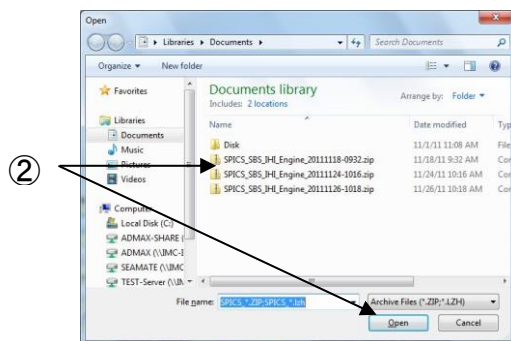
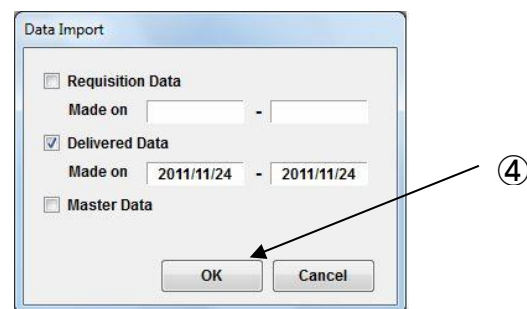
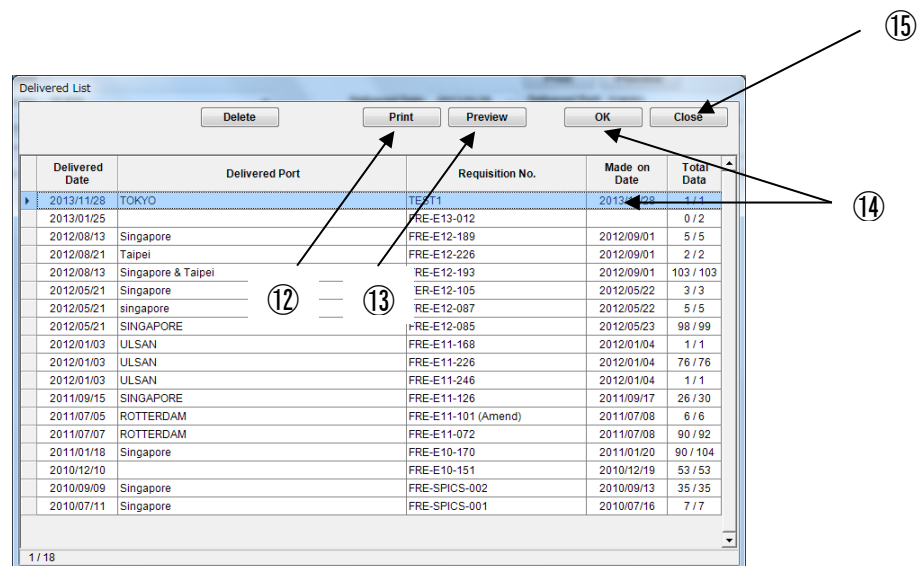

Fig.9-2 Open Dialog
Fig.9-3 Data Import
Fig.9-4 Delivered List Dialog
- (2) "Open Dialog"(Fig.9-2) is displayed. Select file for import. Then, select [Open].
- (7) "Delivered"(Fig.9-3) screen is displayed.
- (8) If you want to print delivered parts list, select [Print].
- (9) If you want to see print preview, select [Preview].
- (10) Select [Delivered Date].
- (11) "Delivered List Dialog "(Fig.9-4) is displayed.
- (12)If you want to print delivered day list, select [Print].
- (13) If you want to see print preview, select [Preview].
- (14) On the delivered date list, double-click or [OK] to review other delivered parts list.
- (15) Select [Close] to close "Delivered List" dialog, and return to "Delivered"(Fig.9-2) screen.